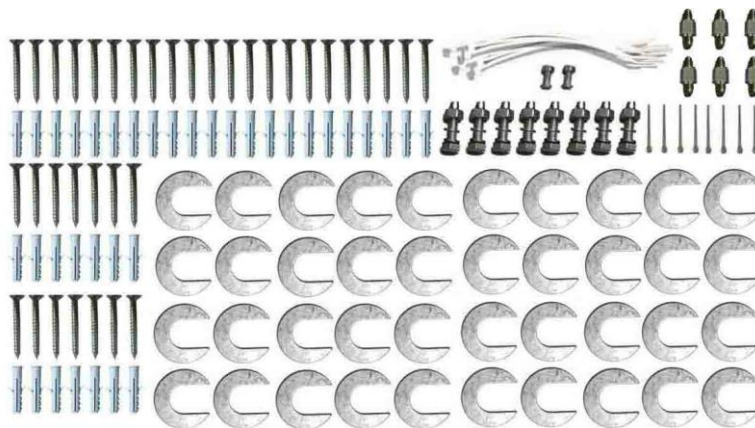

Fig. 18
4.1 Parts bag for on surface installation (See Fig.17, Fig.18)